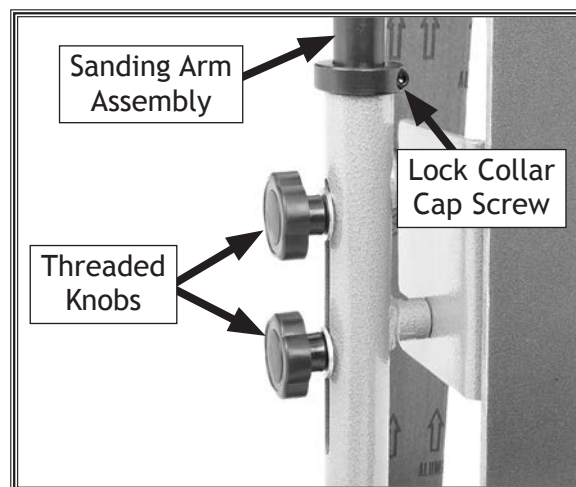

Figure 21. Sanding belt tension controls.
3. Hold onto the sanding arm assembly to keep it from moving, then loosen the threaded knobs and the lock collar cap screw shown in **Figure 21**.